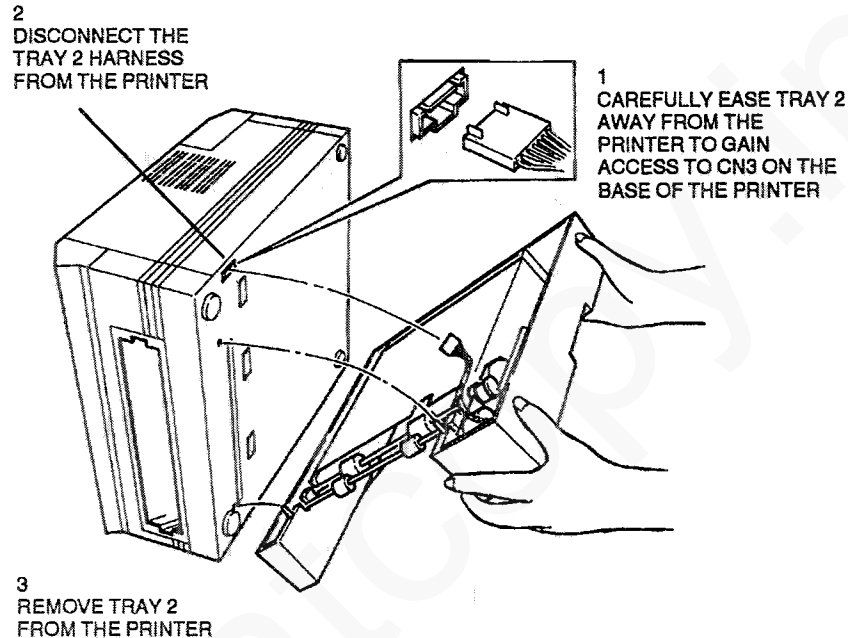

Figure 2. Tray 2 removal
8. (Figure 2) Remove tray 2 from the printer.